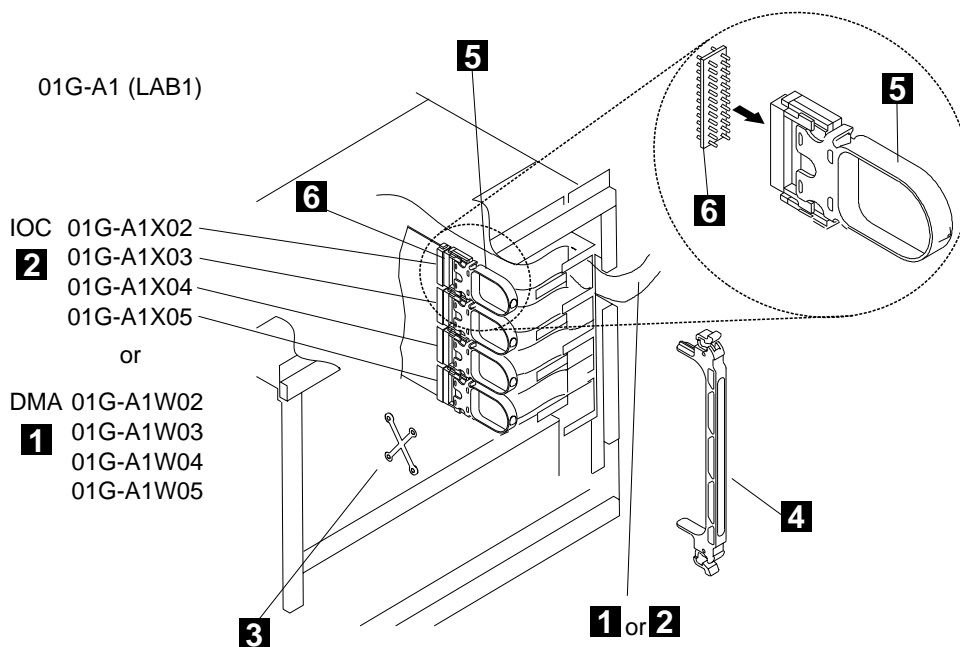

Figure 4-19. DMA and Line Adapter IOC Bus Cable Routing in the 3745 LAB1 Board
- Step 14. ____ Install short retainers **5** (PN 1953188) and four interposers **6** on the IOC bus cables **2**. Make sure the interposers are seated completely flush with the connectors on the cables as it takes considerable pressure to seat them properly (see Figure 4-19).
- Step 16. ____ Maintain cables in raceways using retainers **3** (PN 0813519) see Figure 4-19. They will be definitively clamped when the DMA cables will be installed in the next chapter.
- Step 17. ____ Secure the cable extenders using an intermix bracket **4** (PN 1953110) see Figure 4-19.
- Step 3. ____ Install short retainers **5** (PN 1953188) and four interposers **6** on the DMA bus cables. Make sure the interposers are seated completely flush with the connectors on the cables as it takes considerable pressure to seat them properly (see Figure 4-19 on page 4-20).
- Step 6. ____ Clamp cables in raceways using retainers **3** (PN 0813519) see Figure 4-19 on page 4-20.
- Step 7. ____ Secure the cable extenders using an intermix bracket **4** (PN 1953110) see Figure 4-19 on page 4-20.
- Step 20. ____ Secure the cable extenders using an intermix bracket **4** (PN 1953110) see Figure 4-19 on page 4-20.